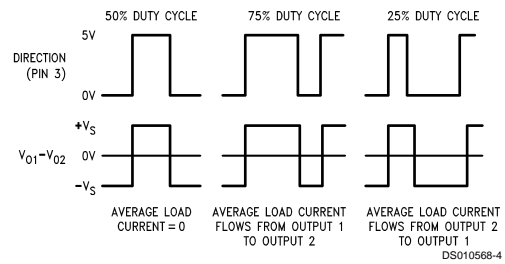

FIGURE 2. Locked Anti-Phase PWM Control
**Simple, locked anti-phase PWM** consists of a single, variable duty-cycle signal in which is encoded both direction and amplitude information (see *Figure 2*). A 50% duty-cycle PWM signal represents zero drive, since the net value of voltage (integrated over one period) delivered to the load is zero. For the LMD18200, the PWM signal drives the direction input (pin 3) and the PWM input (pin 5) is tied to logic high.